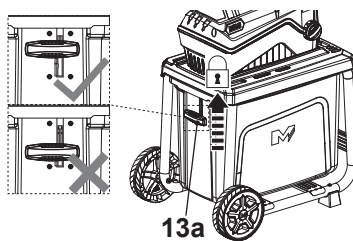

Fig. 6
2. Fully pull up the interlock switch (13a) to its ON position (Fig. 6).